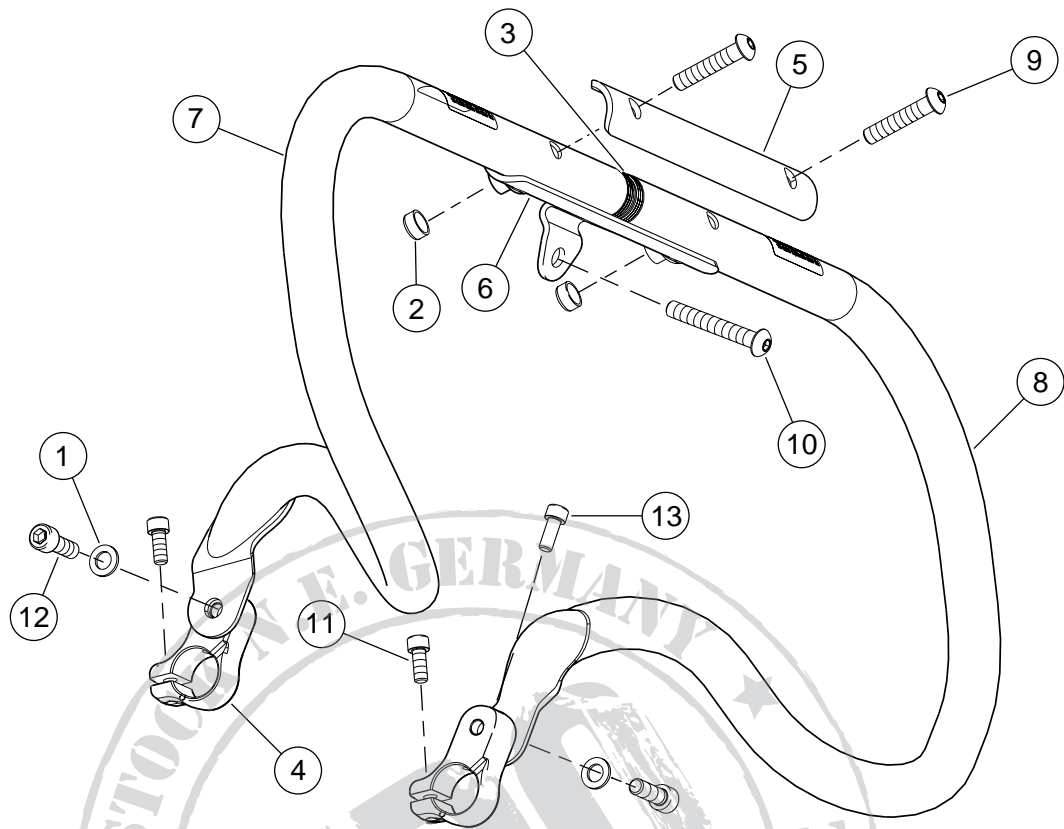

Figure 4. Service Parts: Engine Guard Kit
See Figure 4 and Table 1.
2. See Figure 4. Obtain one of two engine guard mounts (4) from kit. Slide the engine guard mount over the frame foot control mounting boss positioning the open (clamp) end of the mount towards the rear of the vehicle.
4. See Figure 4. Obtain rubber hole plug (13) from kit and install into clearance hole.
8. See Figure 4. Using 70 mm Screw (10) from kit, secure the engine guard mounting bracket to the frame as shown making sure the formed half-cylinder of the bracket is parallel to the ground. Tighten the screw to 38 Nm (28 ft-lbs).
10. Obtain the left (8) and right (7) engine guards and protective plugs (3) from kit. Install the protective plugs into the open ends of each of the guards.
11. Obtain front engine guard mounting bracket (5) and two screws (9) from kit. Orient the the engine guard mounting bracket as shown and secure the upper engine guard (tubes) to the frame using the screws. Tighten screws to 32.5 Nm (24 ft-lbs).
12. Obtain two screws (12) and washers (1) from kit. Using screw with washer, secure the lower right tube section of the engine guard to the lower right side guard mount. Tighten screw to 67 Nm (49 ft-lbs). Repeat Step for the left engine guard and engine guard mount.